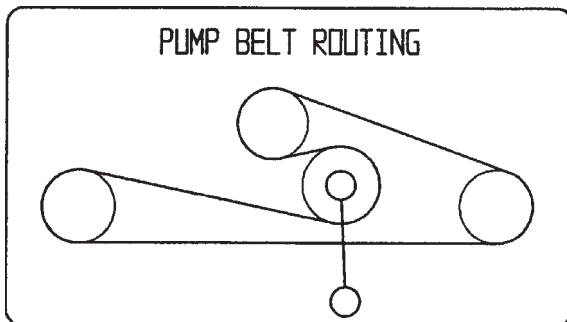

Figure 60
1. Pull the spring loaded idler down and remove traction belt from the engine and hydro pump pulleys (Fig. 60). Remove belt between pulleys.
2. Install new belt around engine and hydro pump pulleys (Fig. 60).
3. Pull spring loaded idler down and align below traction belt. Release pressure on spring loaded idler (Fig. 60).